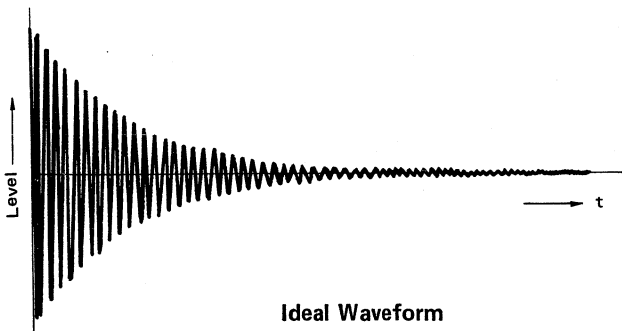

Fig. 1
The most preferable characteristic necessary for the turntable cabinet should be as shown in Fig. 1 for reproduction frequencies from 20 Hz to 20 kHz band. The turntable cabinet of KD-500 (550) employs a layer construction of **A.R.C.B. (anti resonance compression board, so to speak resin concrete)** and plywood.
In addition to vibration-proof construction of resin-concrete and plywood the tonearm base of KD-500 is separated from the turntable cabinet. Not only such a construction is very convenient for mounting work at time of tonearm replacement but the fixed tonearm base is isolated from the turntable. And then vibration-proof characteristics high frequencies is improved. The tonearm base is made from plywood with sufficient mass. The base on which the tonearm is fixed has an ideal damping characteristic (Fig. 1).